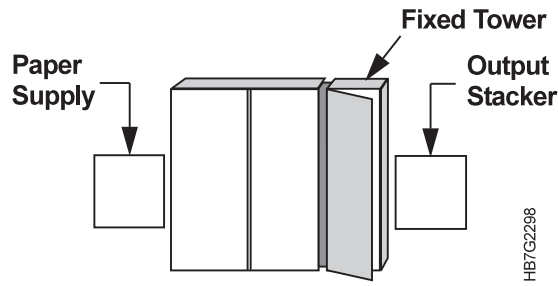

Figure 244. Right Side View of the InfoColor 70
- 2** Open the fixed tower door on the right side of the machine, as shown in Figure 244 on page 324.